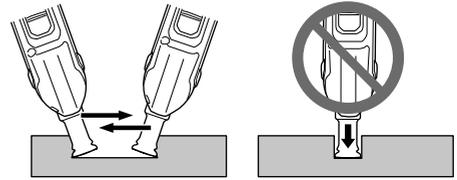

Fig. 18
- Deep cutting in wood (Fig. 18)